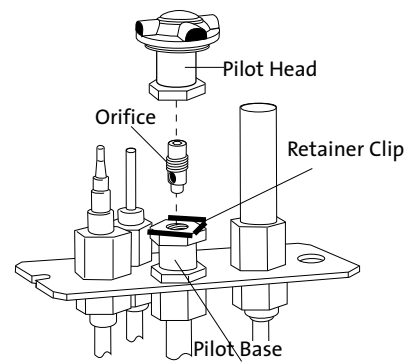

Figure 28. Pilot orifice removal and replacement.
- 7. CHANGE THE PILOT ORIFICE:** From within the firebox, remove the Pilot Head by pulling it straight up from the pilot base. See fig. 28.